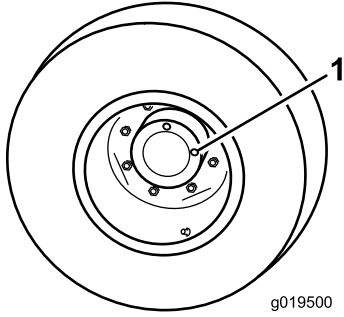

Figure 65
1. With machine on level surface, position the wheel so 1 check plug is at the 12 o'clock position and the other is at 3 o'clock position (Figure 65).
1. Check/drain plug (2)
2. Remove the plug at the 3 o'clock position (Figure 65).